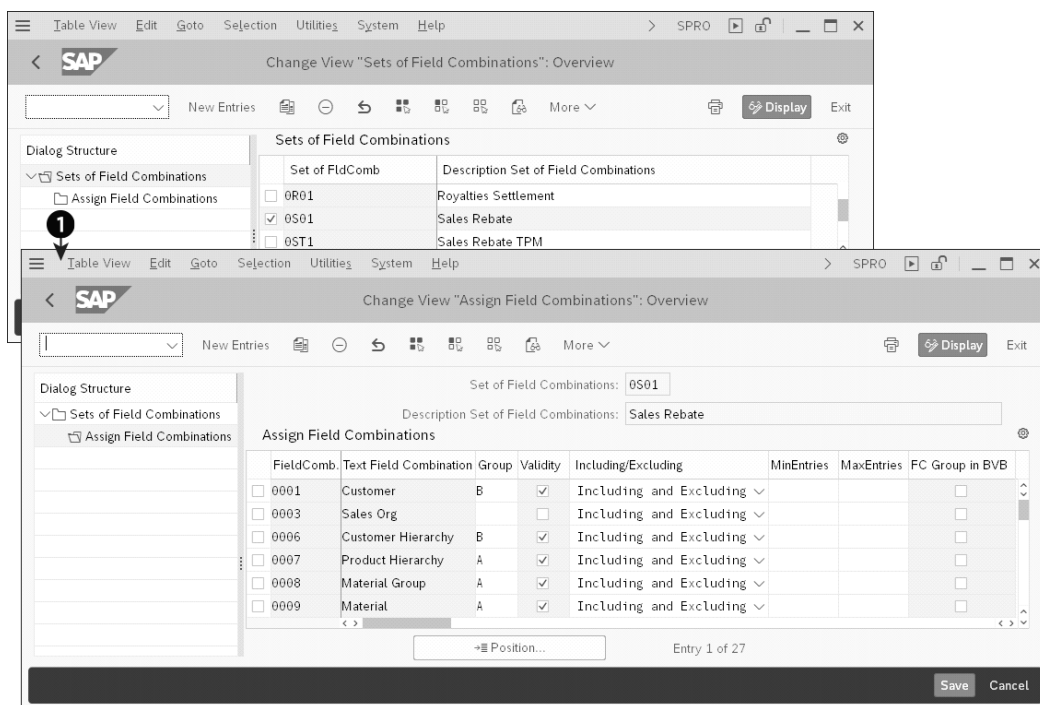

Figure 5.42 Reviewing Set of Field Combination OS01
Contract Management • Condition Contract Settlement • Define and Configure Sets of Field Combinations. The top area of Figure 5.42 shows what you'll see following the menu path and screen commands as specified.
After selecting the desired set of field combinations (**Set of FldComb**) in the list, double-click **Assign Field Combinations** in the **Dialog Structure** menu on the left side of the screen (see Figure 5.42 ①). Here you can review the field combinations that are part of the set of field combination OS01.